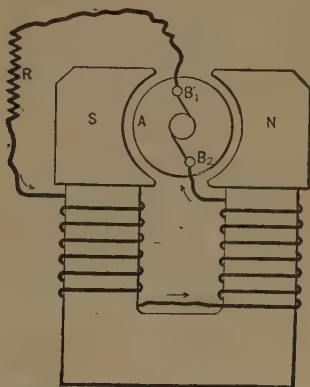

Fig. 431.
A. To shunt off a portion of the main current to do the excitation. This may be done either (1) by dividing the current, as it leaves the armature, into two branches, one for the magnets and the other for the external circuit (Fig. 431); or (2) by dividing the current into two branches, one of fine wire of high resistance, which goes around the magnets only; the other of larger wire which not only forms the external circuit, but also goes round the magnet.
A. (1) Arc and (2) incandescent.